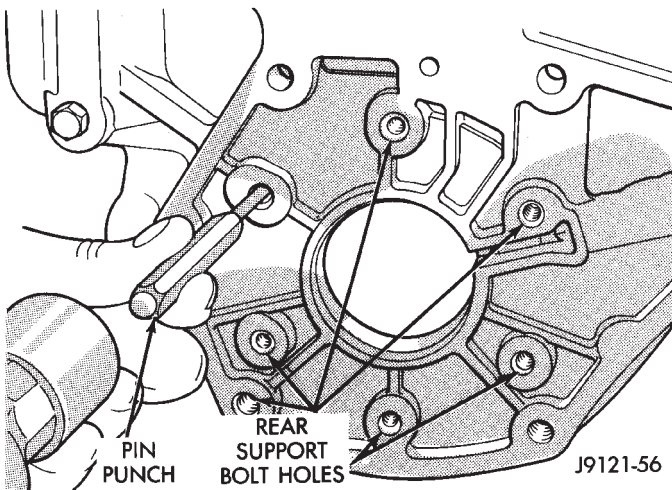
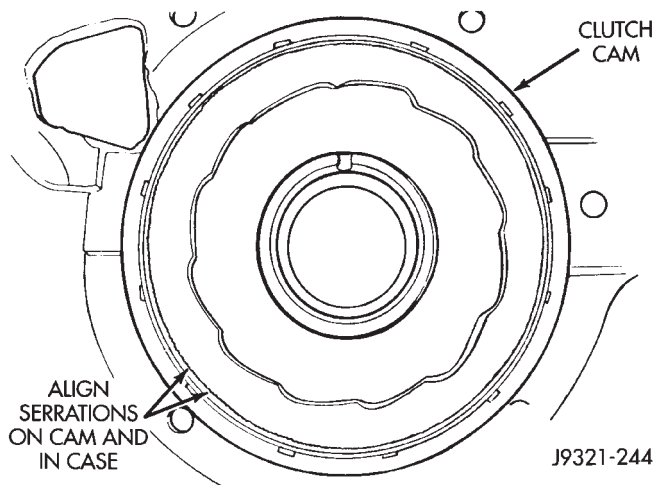

Fig. 40 Removing Overrunning Clutch Cam—46RH
Fig. 41 Positioning Replacement Clutch Cam And Spring Retainer—46RH
- (2) Tap old cam and spring retainer out of case with pin punch. Insert punch through bolt holes at rear of case (Fig. 40). Alternate position of punch to avoid cocking cam during removal.
- (3) Clean clutch cam bore and case. Be sure to remove all chips/shavings generated during cam removal.
- (4) Install rear support in case. Align support with reference marks made at disassembly.
- (5) Align and start new clutch cam and spring retainer in case. Be sure serrations on cam and in case are aligned (Fig. 41). Then tap cam into case just enough to hold it in place.
(6) Verify that cam is correctly positioned before proceeding any further. Narrow ends of cam ramps should be to left when cam is viewed from front end of case (Fig. 41).